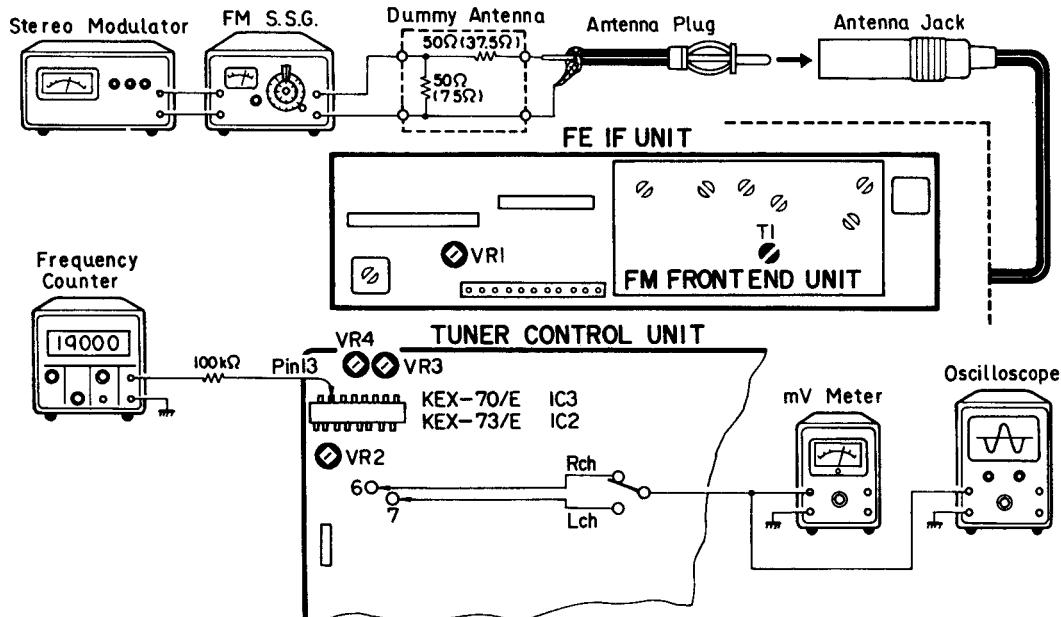

Fig. 28
- **Connection Diagram (shown in Fig. 28)**